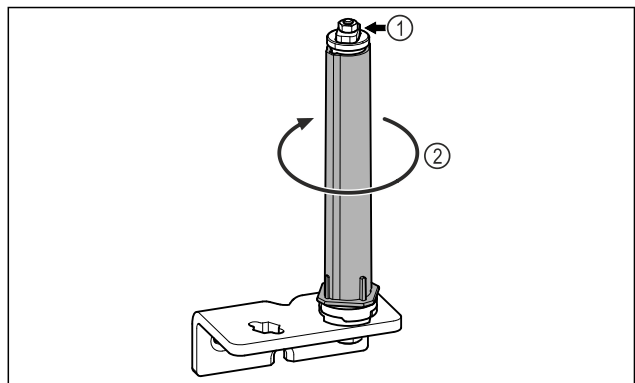

Fig. 21
- Do not disassemble the door locking system Fig. 21 (1).
- Turn the locking system Fig. 21 (2) until it clicks.